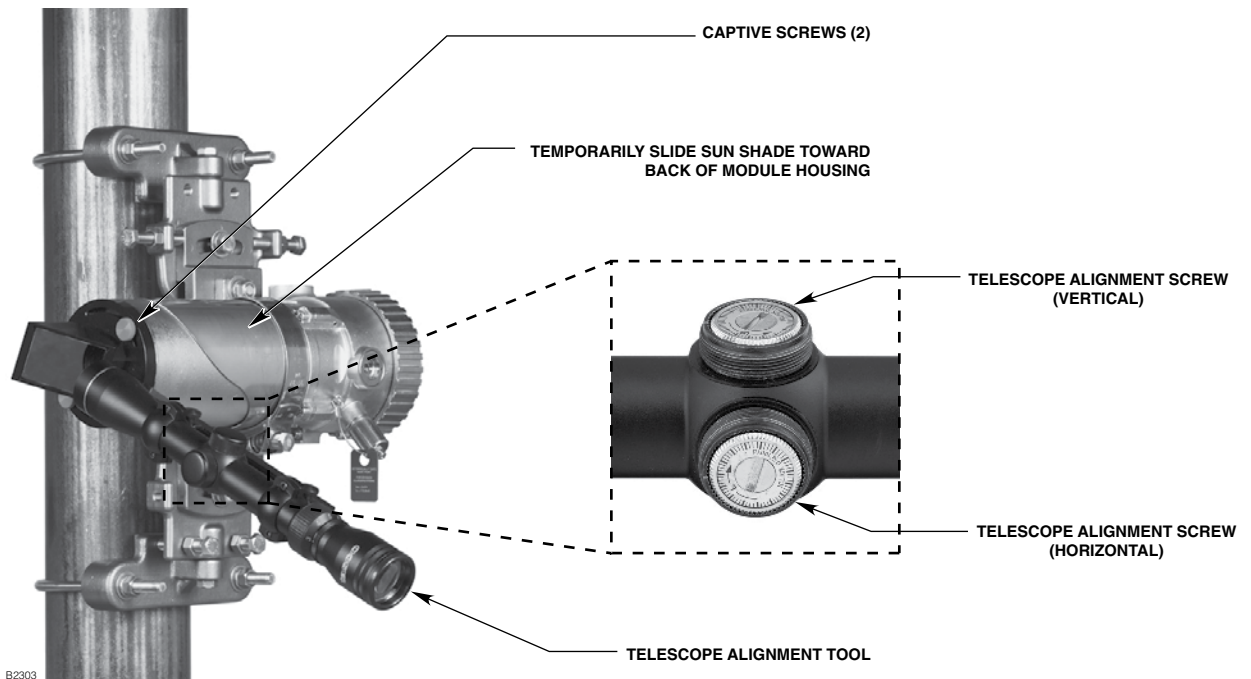

Figure 17— OPECL with Telescope Alignment Tool Installed
6. Install the Telescope Alignment Tool onto the transmitter module by inserting the captive thumbscrews into the threaded holes on the faceplate. See Figure 17. Ensure that the telescope is properly attached, that the eyepiece is accessible, and that the thumbscrews are completely tightened.